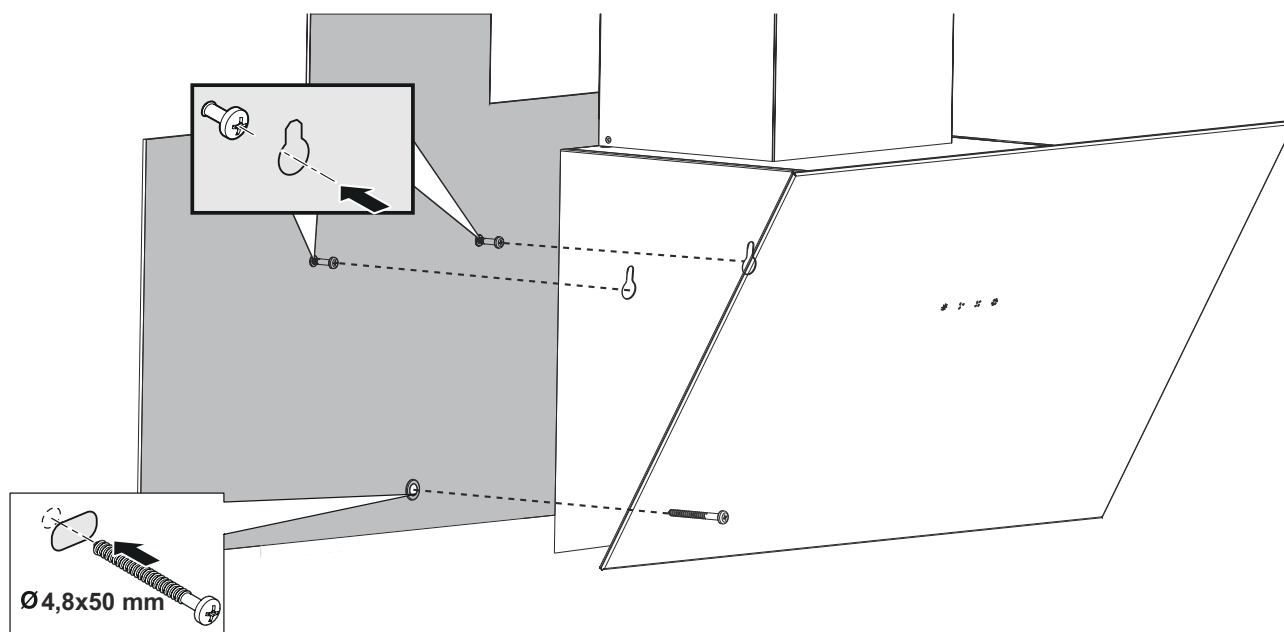

Fig. 14
1. → Hold the device by its body and attach it to the hanger screws that you have previously screwed into the wall and tighten the hanger screws (Fig. 14).
2. → Fix the device to the wall with one 4.8x50 screw through the mounting hole on the inside of the device (Fig. 14).